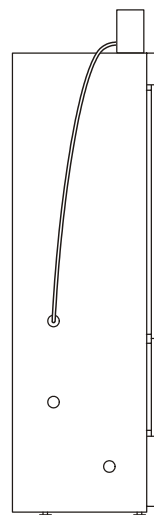

Fig. 3
3. Remove the bulb from the socket by turning it to counterclockwise. (Fig. 3)
3. Remove the caps (both outside and inside) covering the access port for refrigerator and take out the thermal insulation in the port. Pass the recorder sensor to the chamber through the port. Then replace the thermal insulation and caps (both outside and inside). (Fig.3)